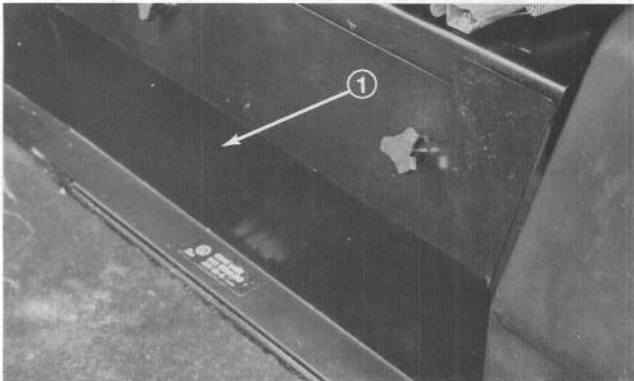

Figure 16
CHECK FRONT AXLE OIL LEVEL (Fig. 16 & 17)
2. Remove access panel (Fig. 16), in front of seat, to expose front axle / dipstick.